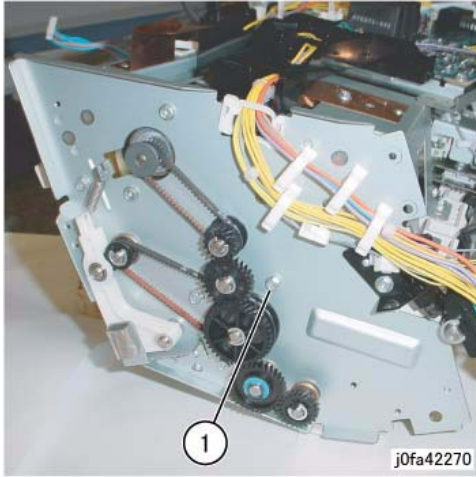

Figure 6 Removing the Screw (j0fa42270)
13. Remove the Compile Assembly. (Figure 6)